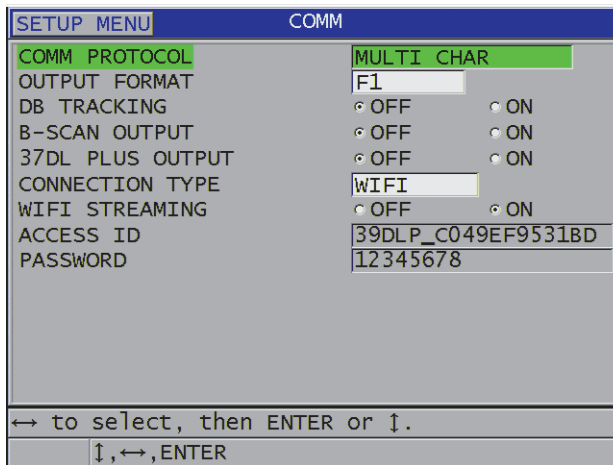

Figure 14-5 Configuring WiFi
4. In the **COMM** screen, set **CONNECTION TYPE** to **WIFI** (see Figure 14-5 on page 268).